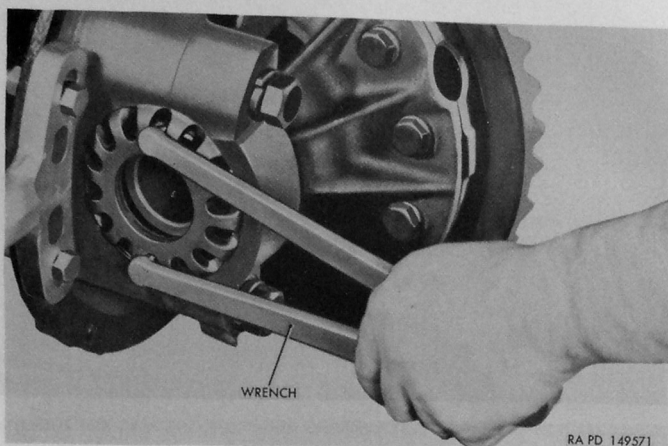

Figure 144. Adjusting drive gear and pinion with spanner wrench
- (1) *Removal of thrust pad and screw.*—Loosen $\frac{7}{8}$ -14 nut (BB) which locks $\frac{7}{8}$ -14 x $3\frac{3}{4}$ screw (CC) in differential carrier; then remove $\frac{7}{8}$ -14 x $3\frac{3}{4}$ screw (CC) and thrust pad (DD) from carrier.
- (2) *Removal of bearing adjusting nut.*—Remove $\frac{5}{16}$ -18 x $\frac{5}{8}$ cap screws (E), $\frac{5}{16}$ -inch lock washers (F), and bearing adjusting nut locks (G). Loosen $1\frac{1}{16}$ -11 x $3\frac{5}{8}$ cap screws (D) several turns to free adjusting nuts. Use spanner wrench 41-W-3247-500 in manner illustrated in figure 144 to remove adjusting nuts.
- (3) *Removal of bearing caps.*
- (2) *Position differential assembly.*—Place cup on each differential side bearing cone; then carefully position differential assembly in carrier.
- (3) *Installation of bearing caps.*—Select proper bearing cap (J) according to identification marks made at time of disassembly and install in proper position, being sure that cap dowels (K) are in place. Install $\frac{1}{16}$ -11 x $\frac{3}{8}$ cap screws (D) and $\frac{1}{16}$ -inch lock washers (H). Tighten cap screws only until lock washers just start to flatten, being certain that bearing cups are not cocked.
- (4) *Installation of bearing adjusting nuts.*—Use extreme care when starting bearing adjusting nuts (A) and (V) to be sure that they are not cross-threaded. When certain that nuts are properly started, tighten $\frac{1}{16}$ -11 x $\frac{3}{8}$ cap screws (D) until bearing adjusting nuts (A) and (V) can just be turned. Use adjustable spanner wrench 41-W-3247-500 in manner illustrated in figure 144 and thread each nut into carrier alternately and equally until tight. During tightening, rotate differential to be sure that bearings are seating.